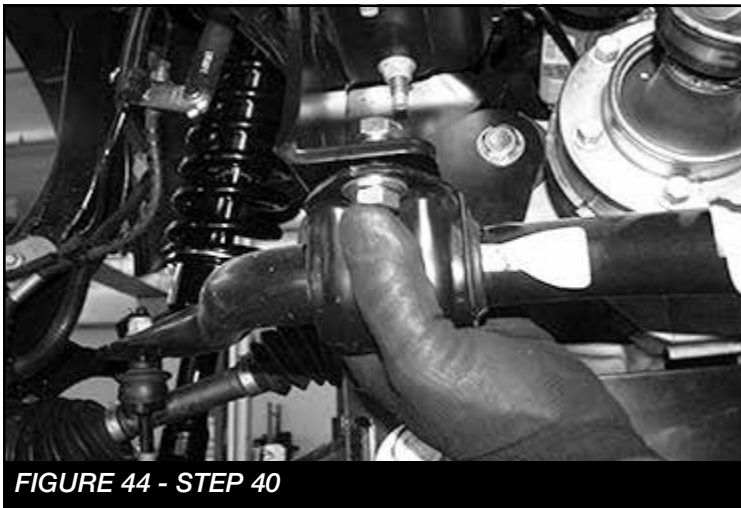

**FIGURE 42 - STEP 39**
39. Reinstall the original brake rotor, followed by the brake caliper. Use a small amount of the supplied thread lock compound on the caliper bolts and torque to 160 ft-lbs. **SEE FIGURE 42**